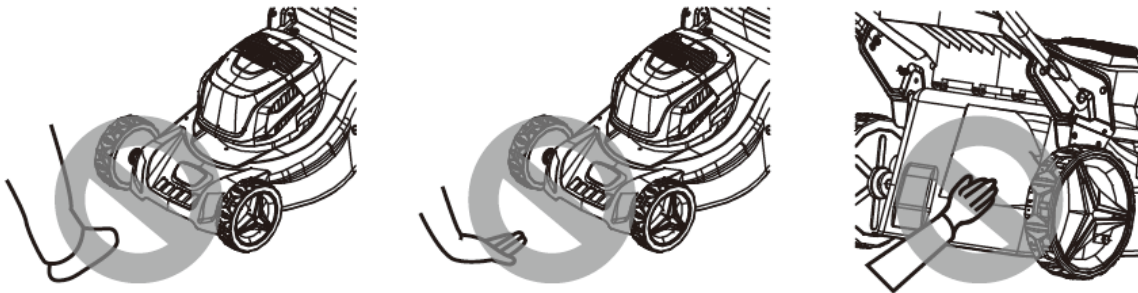

Fig.9C
e) Never place your hands or feet underneath the mower deck or into the rear discharge chute while the motor is running. (Fig.9C)